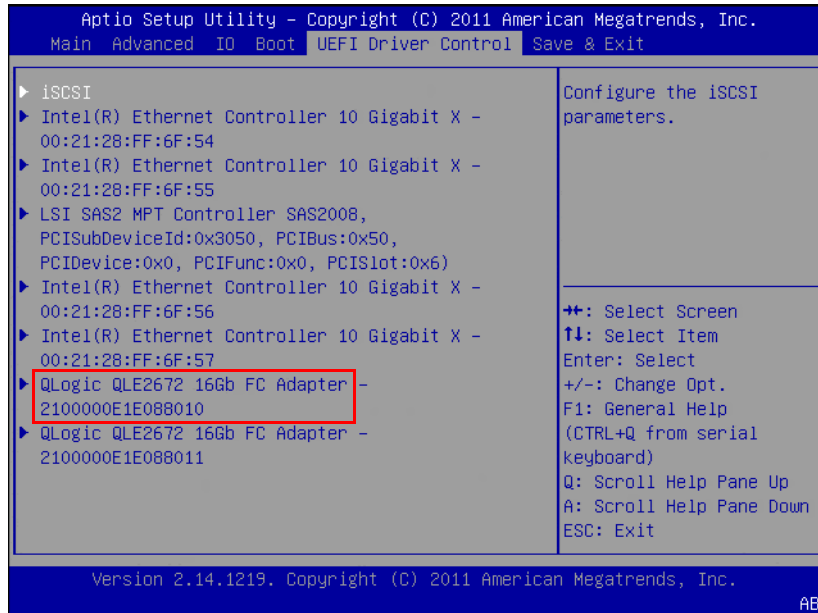

Figure 3-13. UEFI Driver Control Page in UEFI Setup
3. In the left pane, select a 2600 Series Adapter. Figure 3-13 shows an example.